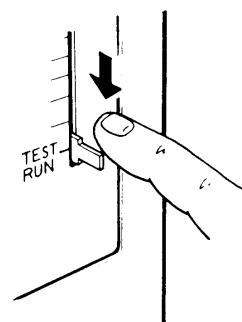

Fig. 37
- Set the thermostat lever to the lowest position. (The central position of the lever becomes the TEST RUN position.) Fig. 37